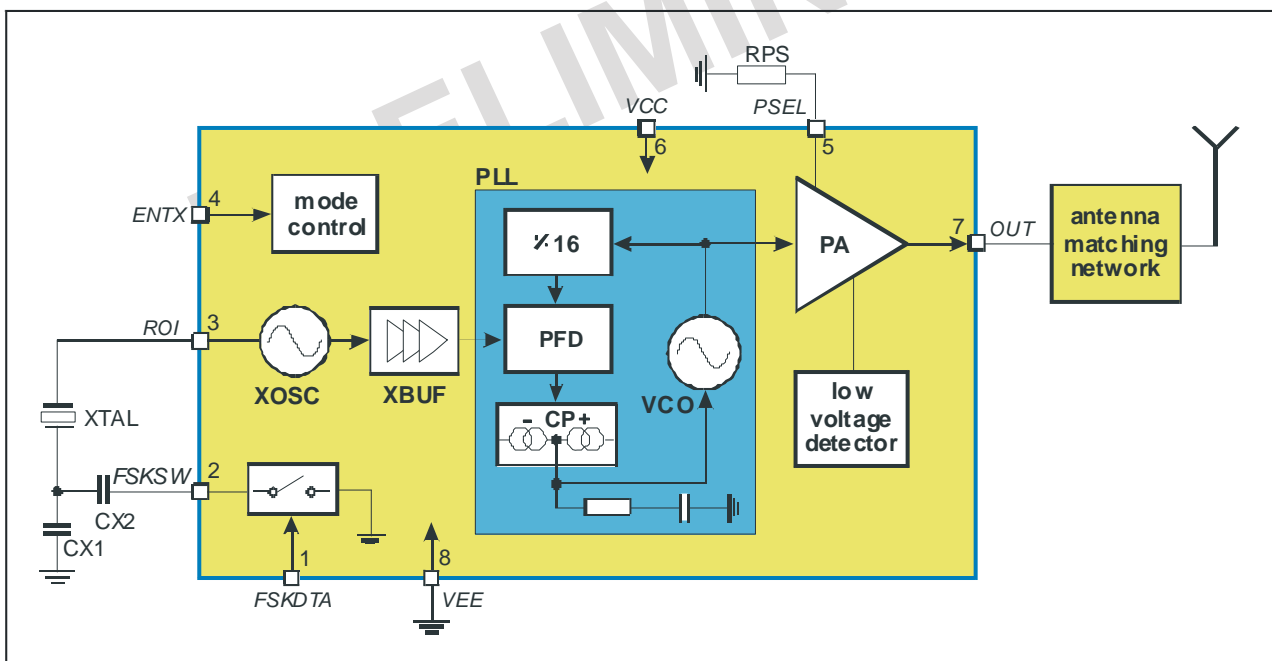

Fig. 1: Block diagram with external components
As depicted in Fig.1, the MLX72013 transmitter consists of a fully integrated voltage-controlled oscillator (VCO), a divide-by-16 divider (div16), a phase-frequency detector (PFD) and a charge pump (CP). An internal loop filter determines the dynamic behavior of the PLL and suppresses reference spurious signals. A Colpitts crystal oscillator (XOSC) is used as the reference oscillator of a phase-locked loop (PLL) synthesizer. The VCO's output signal feeds the power amplifier (PA). The RF signal power P_{out} can be adjusted in four steps from $P_{out} = -16$ dBm to $+12$ dBm, either by changing the value of resistor RPS or by varying the voltage V_{PS} at pin PSEL. The open-collector output (OUT) can be used either to directly drive a loop antenna or to be matched to a 50Ohm load. Bandgap biasing ensures stable operation of the IC at a power supply range of 1.95 V to 5.5 V.